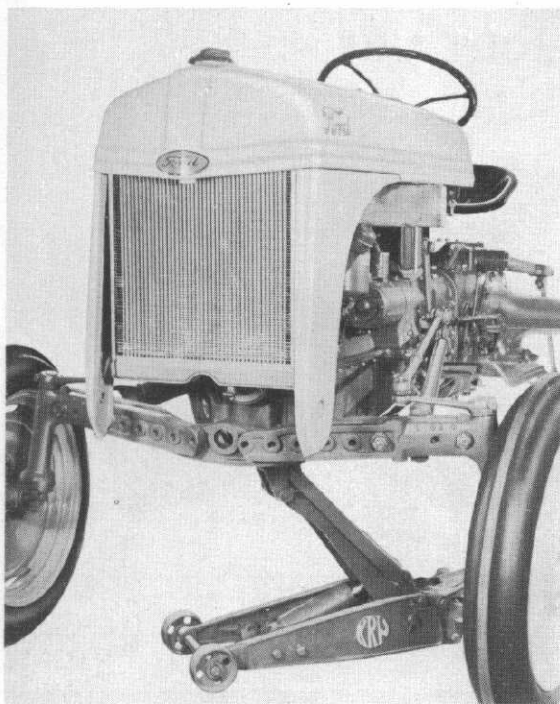

Fig. 4
- Step 2—Remove the front hood bolts and block up under the hood as shown in Figure 4.